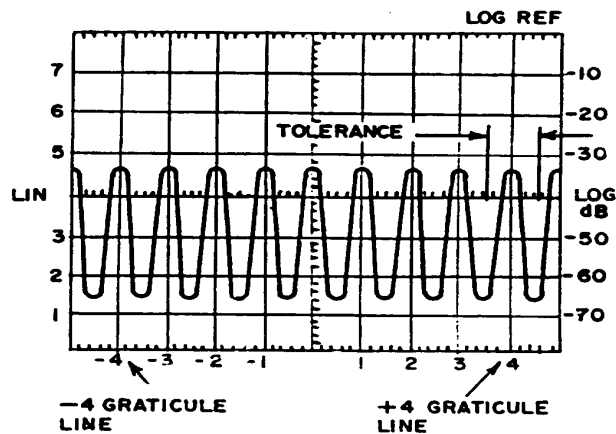

Figure 14. Scan width accuracy display.
(2) Position IF plug-in controls as listed in (a) through (g) below:
(3) Adjust **FREQUENCY** and **FINE TUNE** controls to center a marker on the -4 GRATICULE LINE (fig. 14). Note that a 20 kHz marker appears at about every major division on display screen.
(4) Measure amount of error, in divisions, that marker deviates from +4 graticule line. Deviation for model 8552B is +0.24 major division and +0.40 major division for model 8552A (fig. 14).
(5) Position TI switches as listed in (a) through (c) below:
(6) Adjust **FREQUENCY** and **FINE TUNE** controls to center a marker on -4 GRATICULE LINE.
(7) Repeat (3) above.